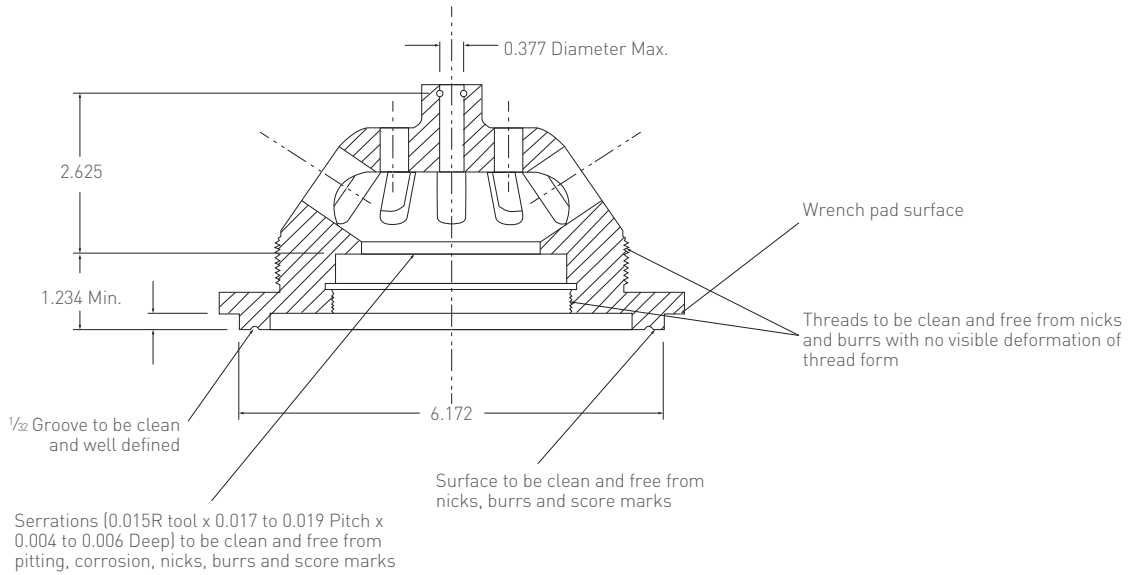

FIGURE 5
The circular surface on the Spanner Nut (33) that contacts the Follower (36) must be smooth and free from nicks and burrs. Any defect on this interface surface that cannot be removed by polishing is cause for scrapping the Spanner Nut (33). There must be no visible deformation of the thread form. Threads must be clean and free from nicks and burrs (Figure 5).